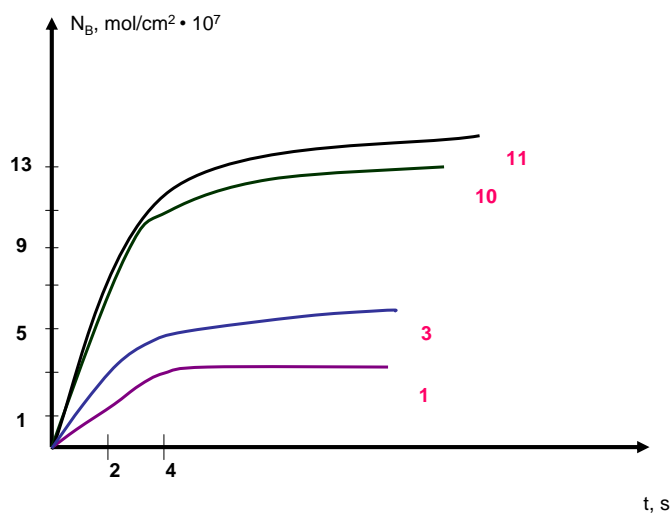

Figure 1b. The amount of the product N_B as a function of time
b) The dependences of the amount of B formed in 1 cm^2 of the catalytic surface upon time are given in Fig. 1b. Different curves correspond to different initial pressures of the reagent A. These pressures (in arbitrary units) are shown by red numbers. There are 10^{15} catalytic sites in 1 cm^2 of the surface. Calculate *TOF* for the catalyst. This catalyst worked during 40 minutes and then became inactivated. Estimate *TON*.